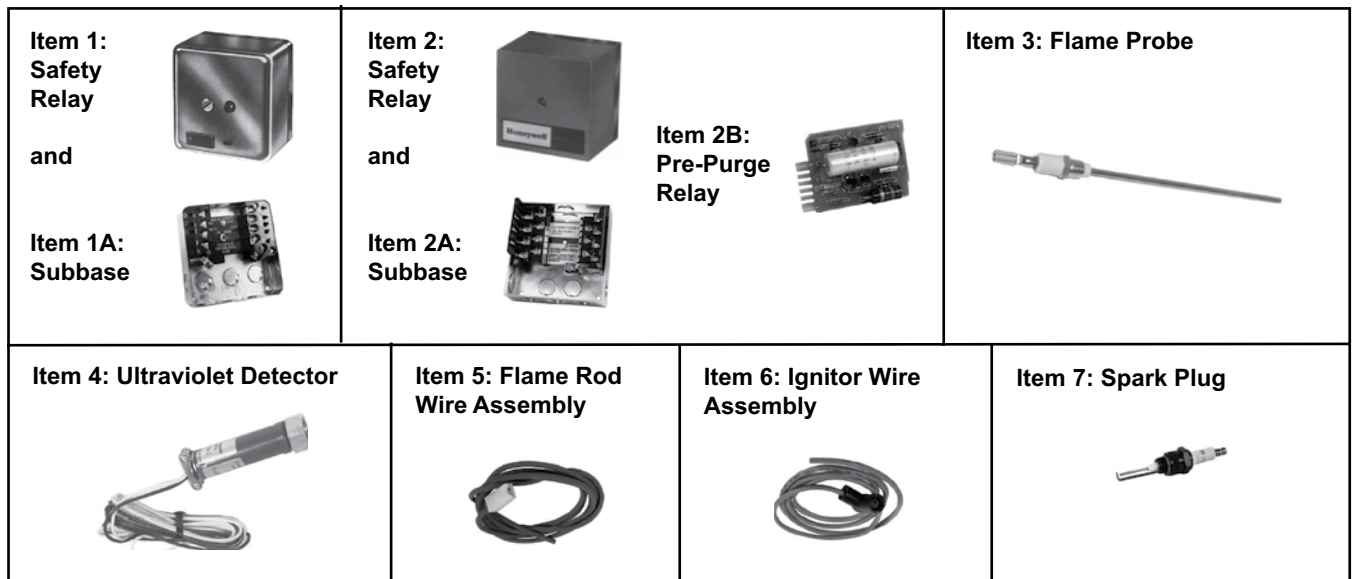

Figure 11. Spark Ignition System Components—Units Manufactured *Before* FEB 1996
- Spark ignition components are listed in Table 20 and shown in Figure 11.